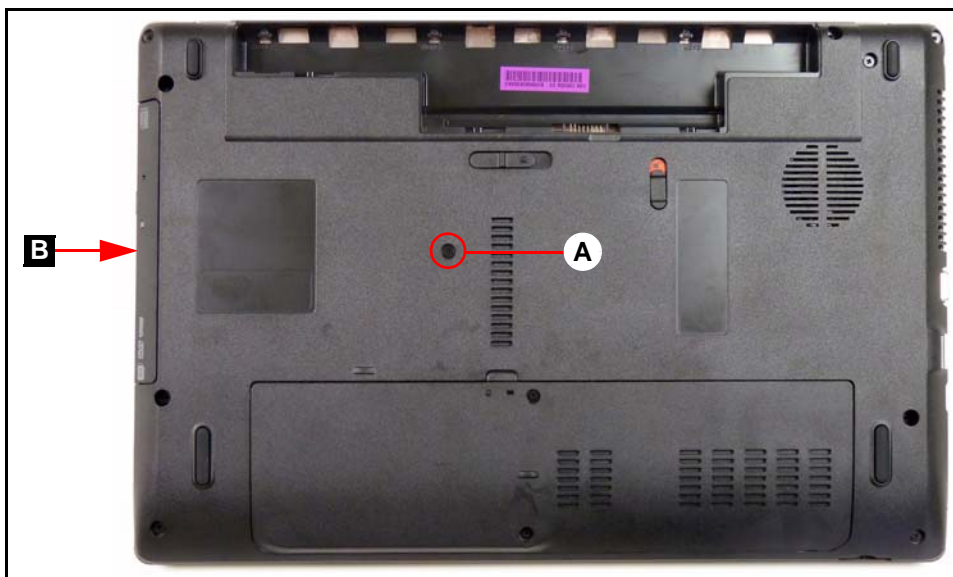

Figure 3-7. ODD Module in Lower Cover
1. Remove one (1) screw (A) from lower cover. (Figure 3-7)
2. Remove ODD module (B) from ODD bay. (Figure 3-7)
3. Insert ODD module (B) into ODD module bay. (Figure 3-7)
4. Install and secure screw (A) to lower cover. (Figure 3-7)